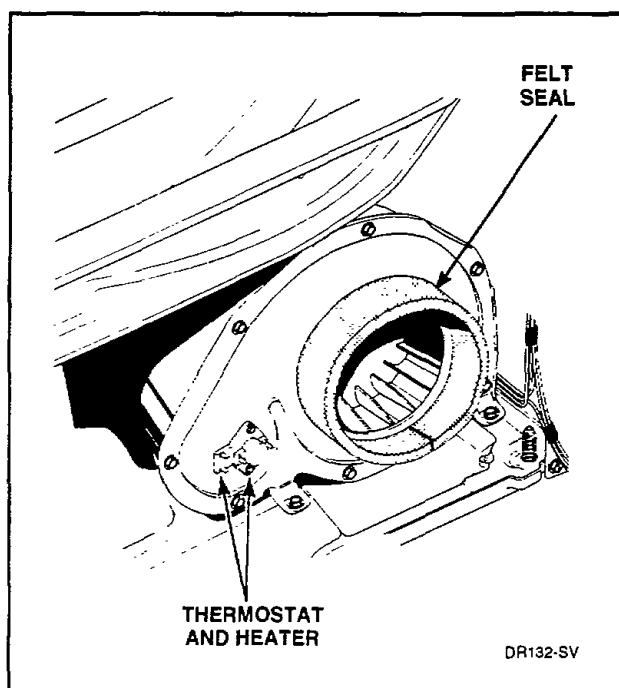
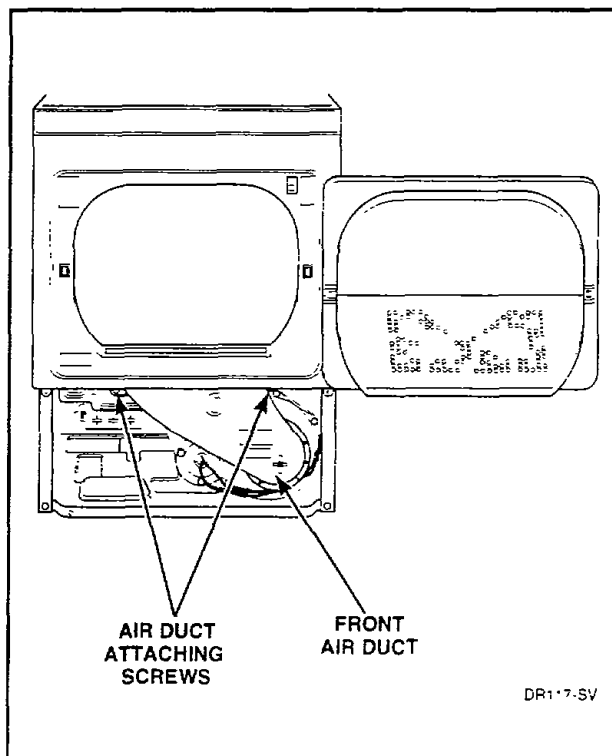

Figure 29
Figure 30
- Disconnect wires and remove thermostat attaching screws, *Figure 29*, and remove thermostat and heater.
- Remove two screws holding air duct to front bulkhead and remove air duct, *Figure 30*.
**IMPORTANT:** When reassembling, make sure felt seal on exhaust fan cover, *Figure 29*, makes air tight seal on flange of duct, *Figure 30*. If the seal is installed improperly, the airflow through the exhaust system will be restricted which can cause fire and dryer malfunction.
- Remove screws holding air duct to front bulkhead and remove air duct, *Figure 30*.
**IMPORTANT:** When reassembling, make sure felt seal on exhaust fan cover, *Figure 29*, makes airtight seal on flange of duct, *Figure 30*. If the seal is installed improperly, the airflow through the exhaust system will be restricted which can cause fire and dryer malfunction.